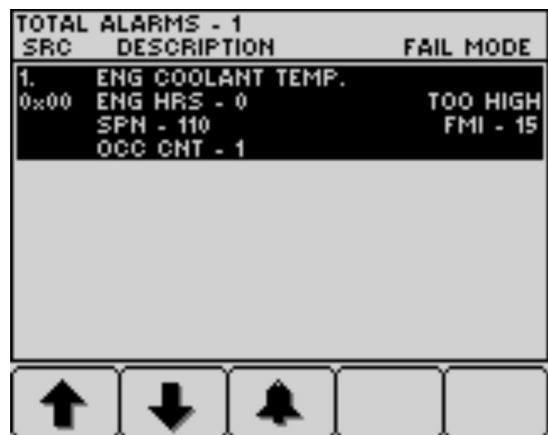

Figure 39
3. Press button 1 through 5 to view the active fault list (Figure 39).
4. Press button 1 through 5 to view the active fault list ; refer to Figure 39 in Engine Advisories Messages (page 35).